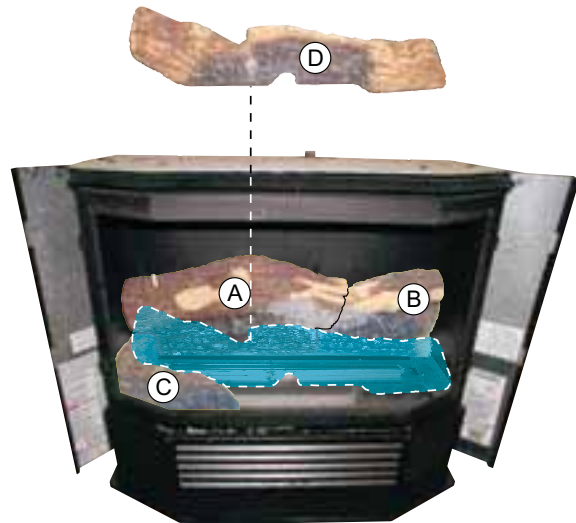

Figure 59
6. Place the Center Log (D) over the flame sensors in the middle of the firebox. Log (D) should be positioned to the left side of the firebox. See Figure 59.
- Place the Top Left Log (F) onto the pins on (A) and (D) Logs. The "legs" of (F) Log will rest on (D) Log. The pins must fit into the holes in the bottom of (F) Log to ensure proper alignment of (A) and (D) Logs. See Figure 59.